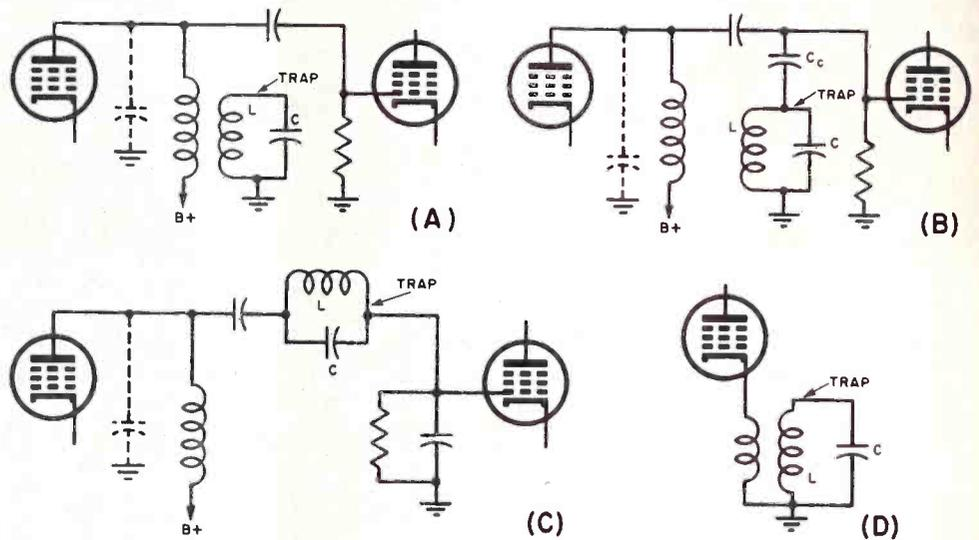

Fig. 3. Various trap circuits. (A) Inductively-coupled trap. (B) Capacitively-coupled trap. (C) Series-coupled trap. (D) Cathode trap.
is useless. Trap circuit capacitors must be of a low-loss type in order to obtain high Q's. For convenience, we will assume that each of the diagrams of Fig. 3 represents an associated sound traps, although trap circuits do not depend upon the frequency to which the trap is tuned.
The coil of an inductively-coupled trap, as in Fig. 3(A), is placed near the i-f interstage coil with which it is to work. If a 41.25-mc associated sound signal is present in the i-f interstage coil, it will induce a signal in the trap circuit. This will result in a relatively large circulating current in the trap because of its high Q. The circulating current produces a magnetic field that acts to oppose the 41.25-mc signal in the i-f interstage coil, thereby considerably reducing the strength of the associated sound signal. (The amplitude of this signal cannot be reduced to zero, of course, because then there will be no magnetic field in the trap circuit).
A second type of circuit, the capacitively-coupled trap, is shown in Fig. 3(B). Although the operation of this circuit is different than that of the inductively-coupled trap, the end result is the same. At 41.25 mc, for example, coupling capacitor C_c in combination with L and C, will produce a low-impedance series-resonant path to ground. This will "short-circuit" the 41.25-mc signal that is present in the i-f interstage coil. The capacitively-coupled trap also produces a peak to the left of 41.25 mc, but in this case it is caused by a high-impedance parallel-resonant condition between the i-f interstage coil and the trap circuit.
The series-coupled trap of Fig. 3(C) acts by introducing a high-impedance parallel-resonant circuit in series with the signal path. This trap is also characterized by a peak to the left of 41.25 mc. The action of the trap is controlled by the size of C. When C is too small, the picture frequencies will be affected. When C is too large, the size of L becomes correspondingly small and it becomes difficult to build a high-Q trap coil. C is generally over 100 μf in value.
The fourth circuit, the cathode trap, is shown in Fig. 3(D). The action of this trap is based upon the reduced gain that results when an impedance is introduced into the cathode circuit of a tube. At 41.25 mc the trap coil reflects a high impedance into the cathode circuit, while at other frequencies it has very little effect. The cathode coil by itself is a small inductance, and does not